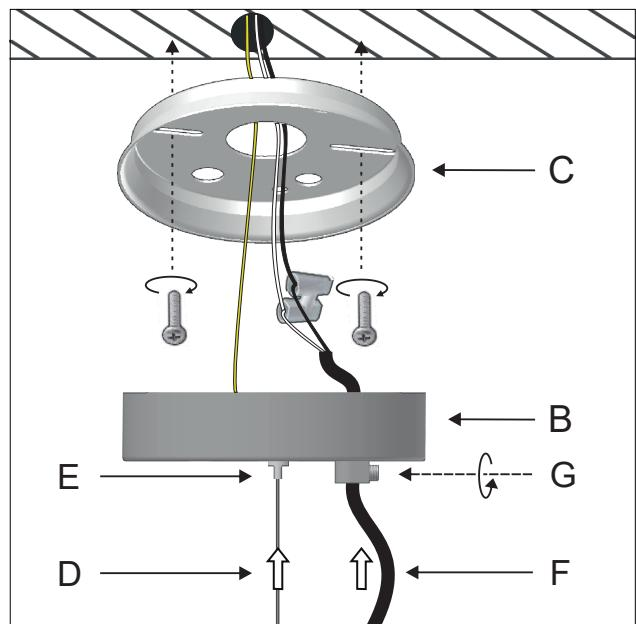
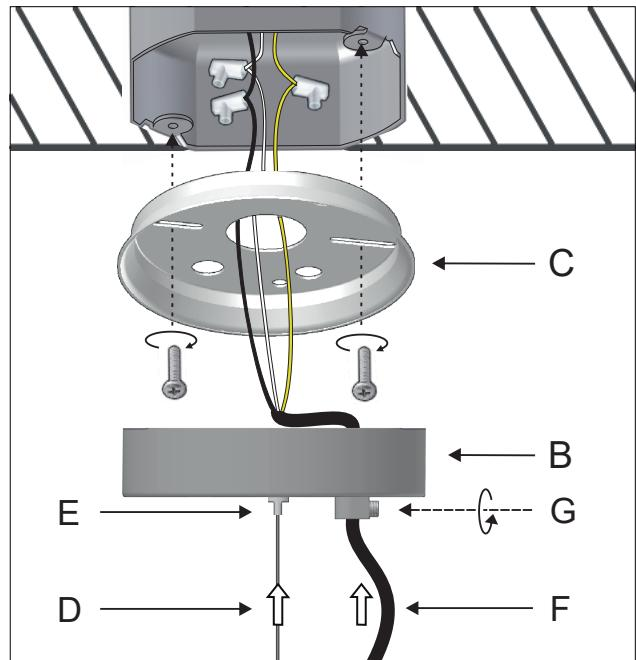
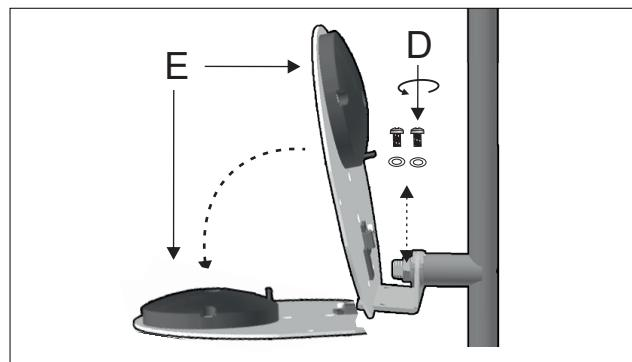

Figure 2
Figure 3
Figure 5
Run the steel cable [D] through the gripper supports [E] and adjust the cable to the desired length. See figure 5 for the operation of the gripper support. Run the lamp electrical cable [F] through the cable holder [G]. Make the electrical connections. Attach the mounting bracket to the ceiling and secure the electrical cable with the cable holder [G]. Figure 2.
Run the steel cable [D] through the gripper supports [E] and adjust the cable to the desired length. See figure 5 for the operation of the gripper support. Run the lamp electrical cable [F] through the cable holder [G] and the mounting bracket [C]. Make the electrical connections inside the junction box. Attach the mounting bracket to the junction box and secure the electrical cable with the cable holder [G]. Figure 3.
5 - Remove the screws and washers (D), place the screen (E) horizontally and fasten the screws (D) again to hold the screen. Figure 5.